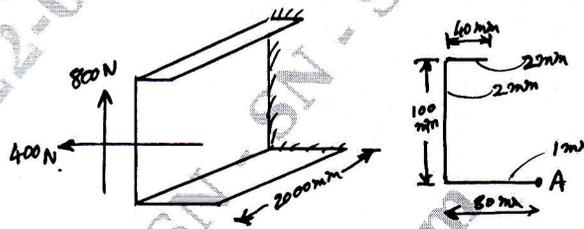

Fig.Q1(b)
- b. A thin walled cantilever beam of unsymmetrical cross-section supports shear loads at its free end as shown in Fig.Q1(b). calculate the value of direct stress at the extremity of the lower flange (Point A) at a section half way along the beam if the position of the shear loads is such that no twisting of the beam occurs.